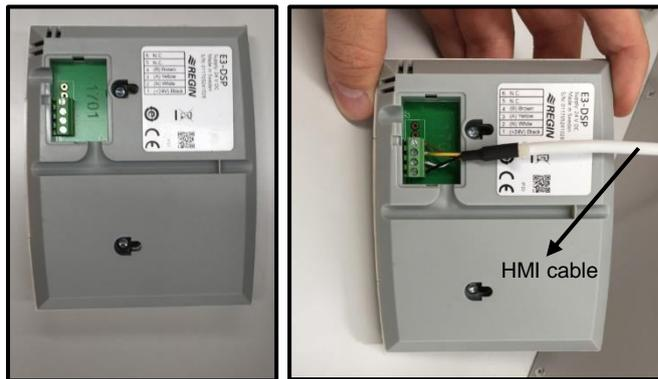

Fig. 18
4. Connect the other end of the HMI cable with the display (Fig. 18) (refer to chapter 8 for connections)